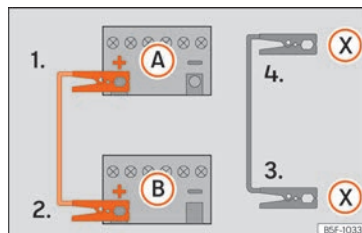

Fig. 43 Diagram of connections for vehicles with Start Stop system
- 4b. *In vehicles with a Start-stop system:* connect one end of the *black* jump lead (X) to a suitable ground terminal, to a solid piece of metal in the engine block, or to the engine block itself » Fig. 43.
5. Connect the other end of the *black* jump lead (X) to a solid metal component bolted to the engine block or to the engine block itself of the vehicle with the flat battery. Do not connect it to a point near the battery (A).